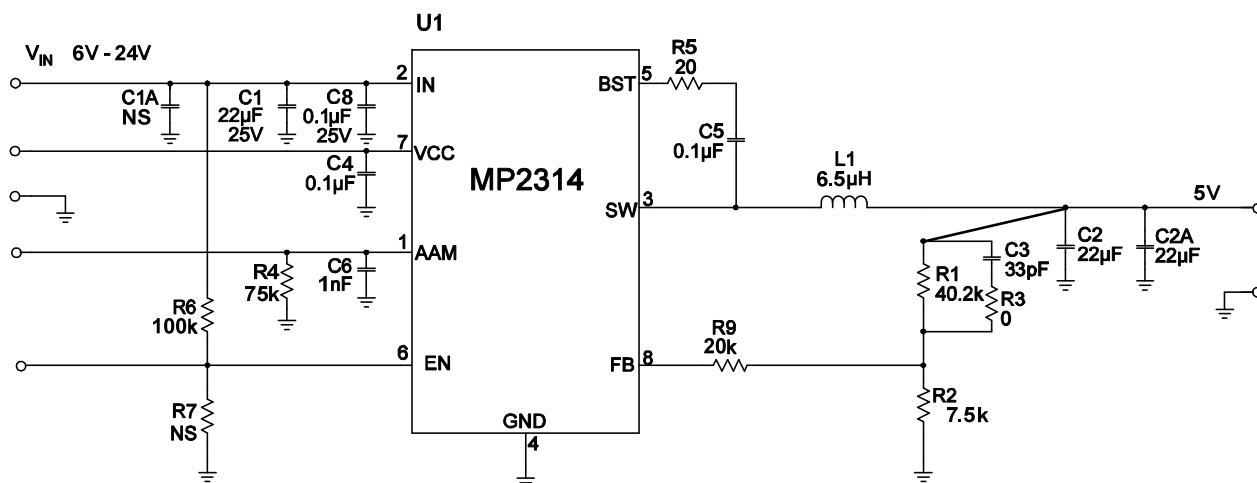

Figure 9: Vo=5V, Io=2A
- 7) The recommended layout is based on the Figure 9 Typical Application circuit on the next page.
The detailed application schematics are shown in Figures 9 through 14. The typical performance and circuit waveforms have been shown in the Typical Performance Characteristics section. For more device applications, please refer to the related Evaluation Board Datasheets.